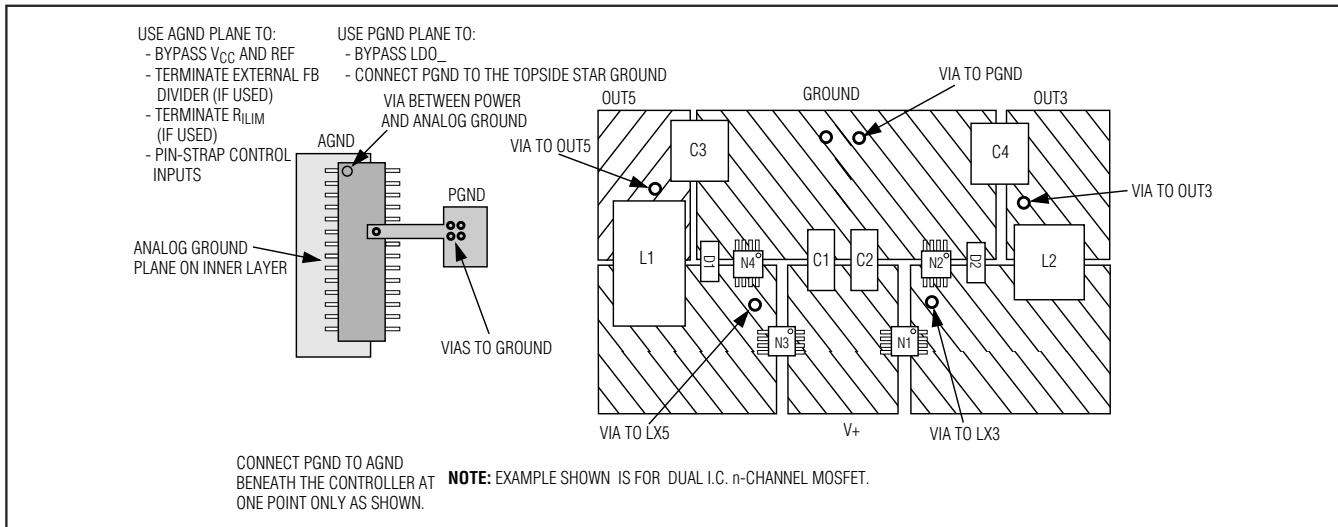

Figure 13. PC Board Layout Example
Careful PC board layout is critical to achieve minimal switching losses and clean, stable operation. This is especially true when multiple converters are on the same PC board where one circuit can affect the other. The switching power stages require particular attention (Figure 13). Refer to the MAX1999 EV kit I.C. data sheet for a specific layout example.
- 4) Make the DC-DC controller ground connections as follows: near the device, create a small analog ground plane. Connect the small analog ground plane to GND (Figure 13) and use the plane for the ground connection for the REF and  $V_{CC}$  bypass capacitors, FB dividers, and  $\text{ILIM}$  resistors (if any). Create another small ground island for PGND, and use the plane for the  $V+$  bypass capacitor, placed